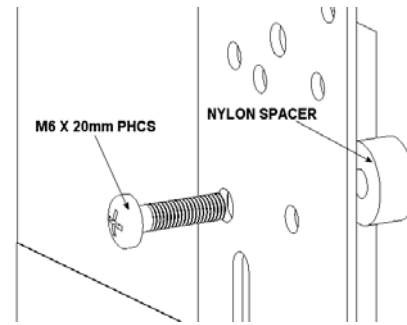

Figure 16. Spacer Installation for Group 5
3. Place the four Nylon spacers over the mounting holes on your Large Flat Panel display (see Figure 16).